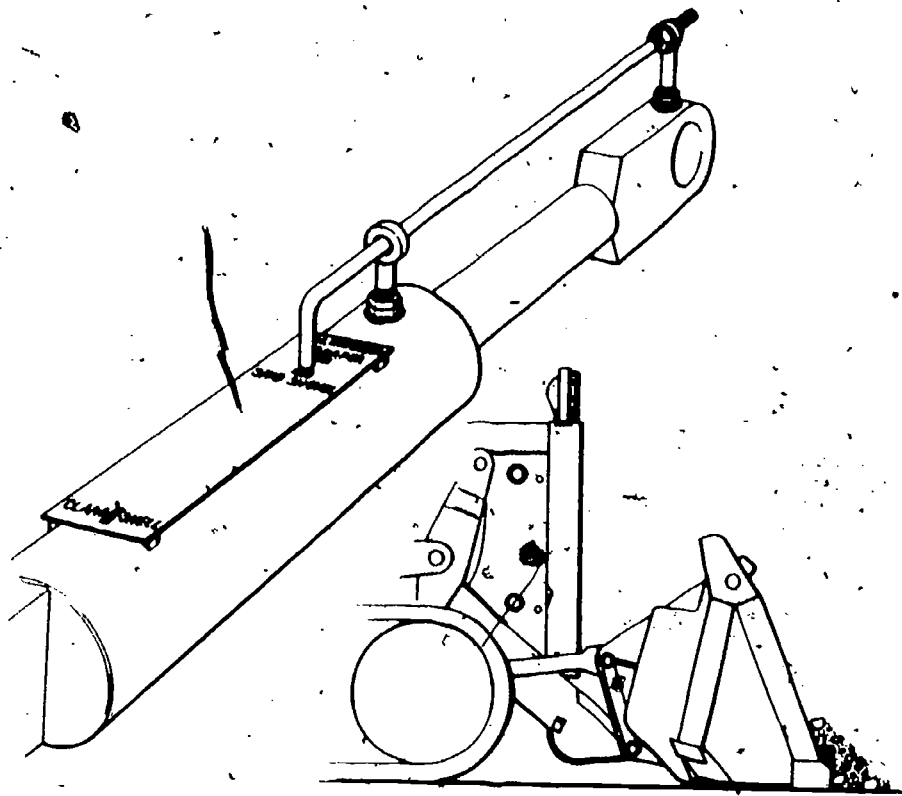

Fig 4-33. Tilt cylinder in skid shovel position.
- (1) Skid shovel. As a skid shovel, the loader can dig, transport materials, back fill, load trucks, and level uneven ground. To pick up and transport objects on the Case MC 1150 scooploader, move the loader control lever forward or backward as required until the indicator rod on the tilt cylinder (fig 4-33) points to the skid shovel position. Then use the clam-opening lever to fully close the bucket. Lower the bucket until it comes in contact with the ground. As the tractor moves forward you can control the depth of cut by moving the loader control lever to the right or left. When the bucket is filled, tilt it back, lift the load slightly, and semi-skid on the skid shoes. The bucket should be tilted all the way back when transporting a load.